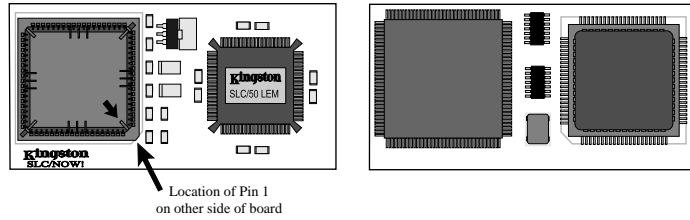
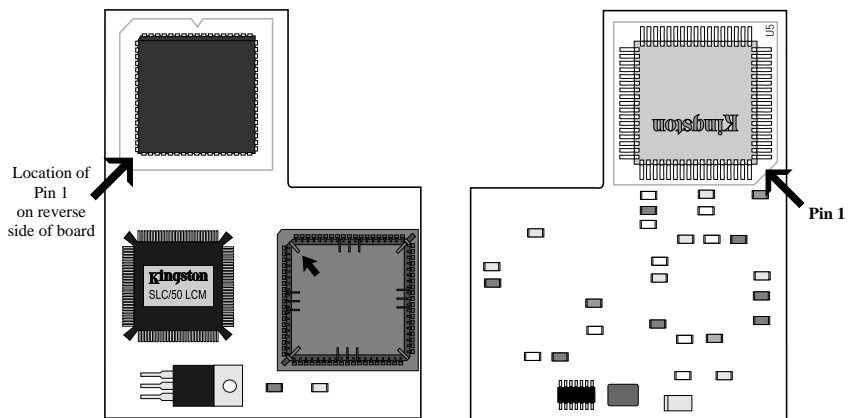

Figure 1 Top View - SLC/50LEM for the IBM PS/2 Models 25 & 30, and New LCM version for PS/2 50z
Figure 3 Top View - SLC/50LCM (Older Version) for the PS/2 Model 50z
14. Align the beveled edge of the 80286 outline on the 386SLC or 486SLC2 Processor Upgrade with pin 1 on the 80286 socket. For reference, see Figure 1 on page 3 for New LCM board version Rev.A4 or higher, or Figure 3 for older version. Press gently into place, applying an even pressure. **(If it is not positioned correctly, damage to both your IBM PS/2 and the upgrade card may result.)**